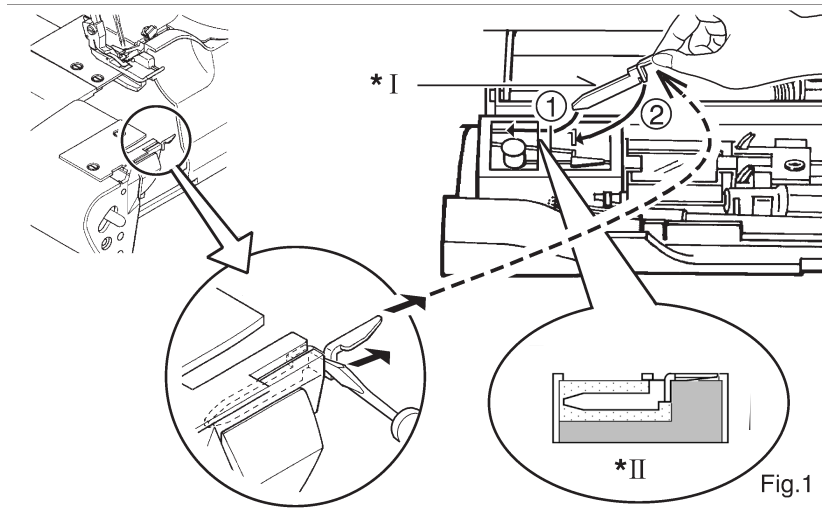

Fig.1
Pull out the converter as shown in Fig. 1.
2. After finishing, re-set the stitch finger in its place. Please ensure inserting it deep as illustrated in Fig 1.